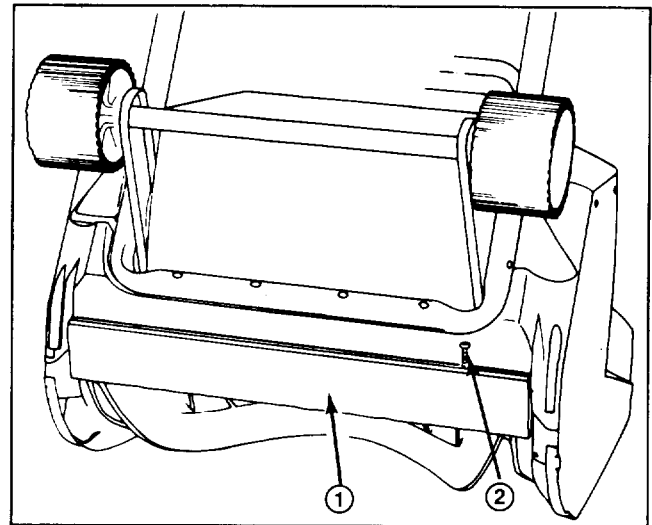

Figure 8
Screw On Scraper (Fig. 8)
2. Install new scraper using (2) screws (Fig. 8).